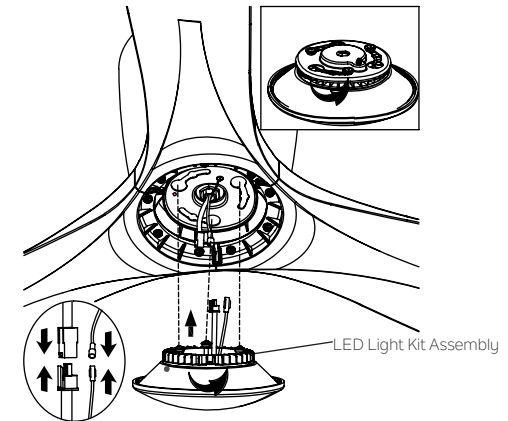

Fig. 14
Step 1. Hold the LED light kit assembly close the motor and connect the pin connectors together. (Fig. 14)
Step 2. Tuck the connections neatly into the LED light kit assembly, raise the LED light kit assembly up to the motor, align the red dot labels, and twist screws on top of LED light kit toward the narrow end of the slotted holes on the motor as shown. Make sure all screws lock in place and LED light kit no longer turns. (Fig. 14)